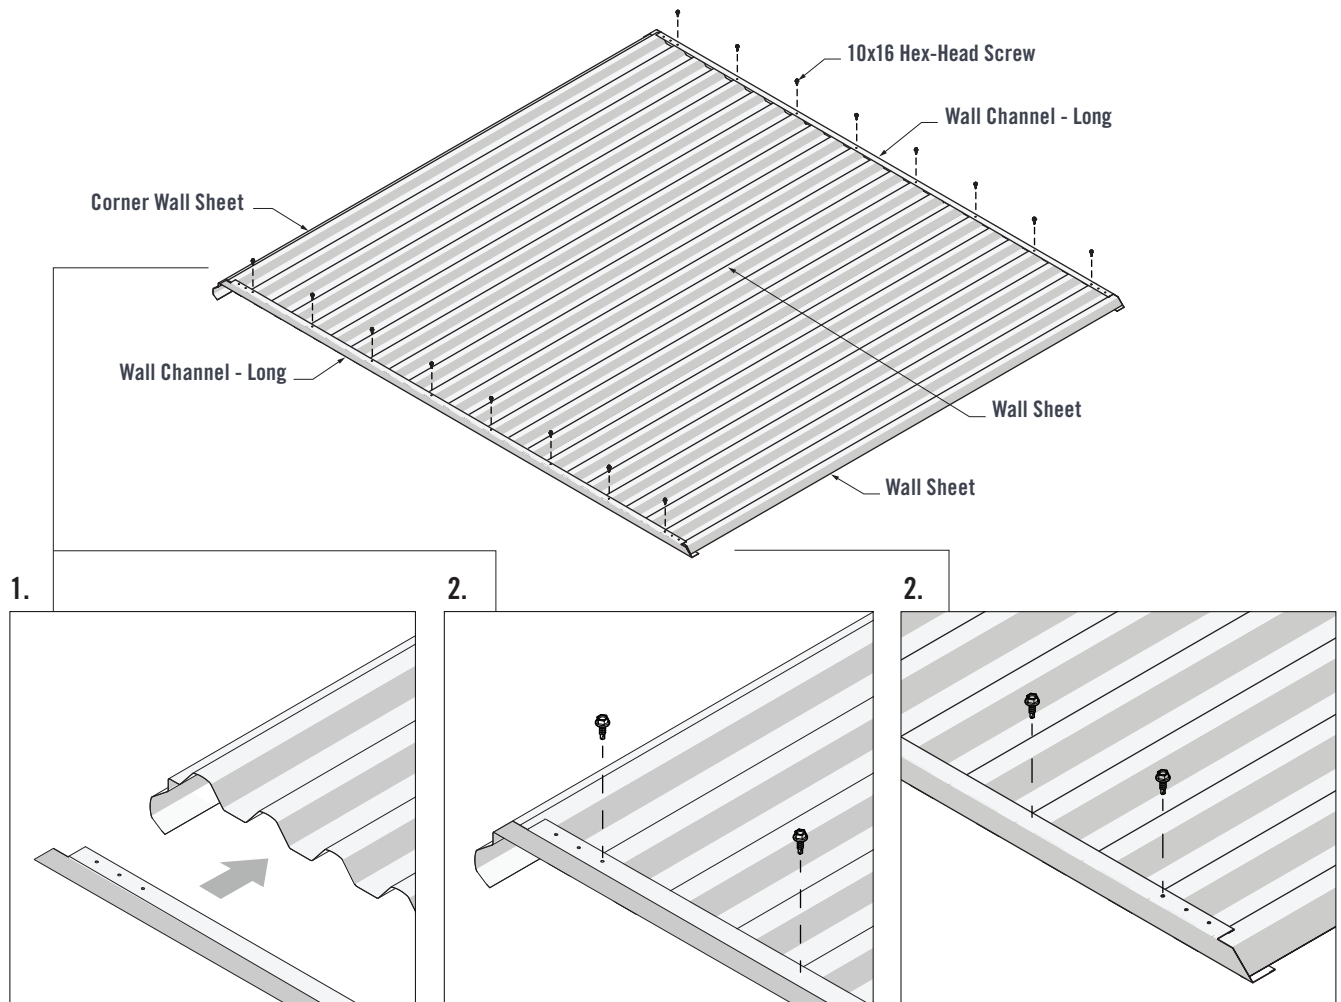

FIGURE 2.2
1. Fit the Wall Channel (Long) over the lapped Wall Sheets. The end of the Wall Channel should fit up against the end of the Corner Wall Sheet (Figure 2.2).
2. Wall Channels have three pilot holes in each end. Fasten through the third pilot hole of both Wall Channel ends and into the Wall Sheet crests. Fasten through the Wall Channels and into every third Wall Sheet crest using six 10x16 Hex-Head Screws in each Wall Channel (Figure 2.2).